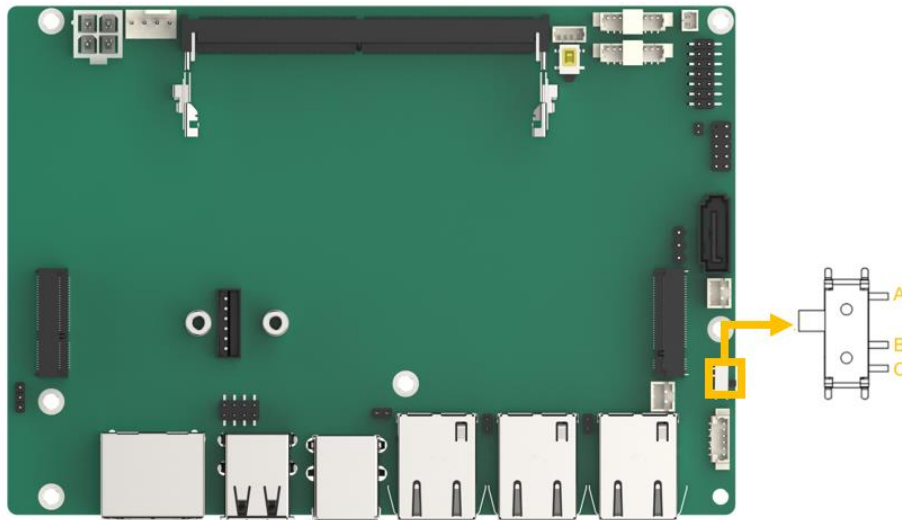

Figure 4-11: AT/ATX Power Mode Switch Locations
- CN Location:** See **Figure 4-11**